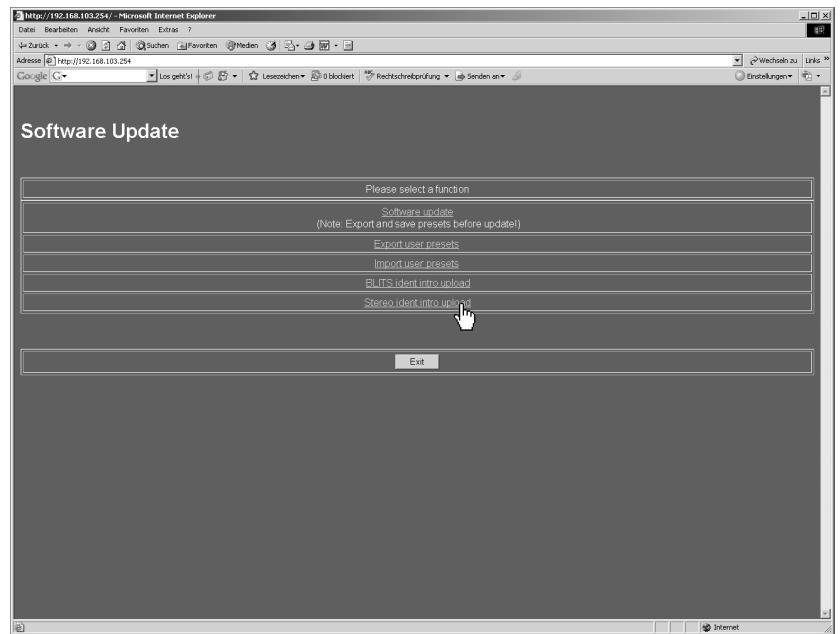
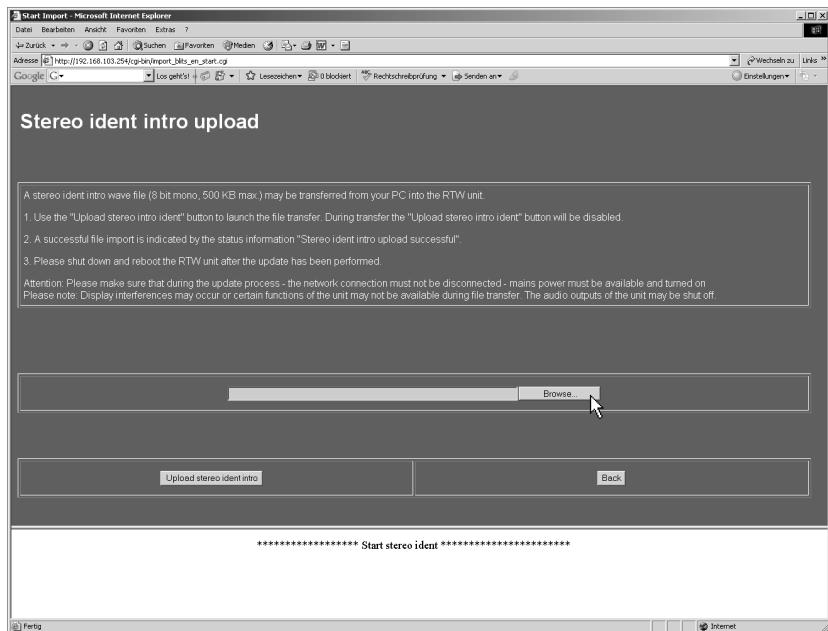
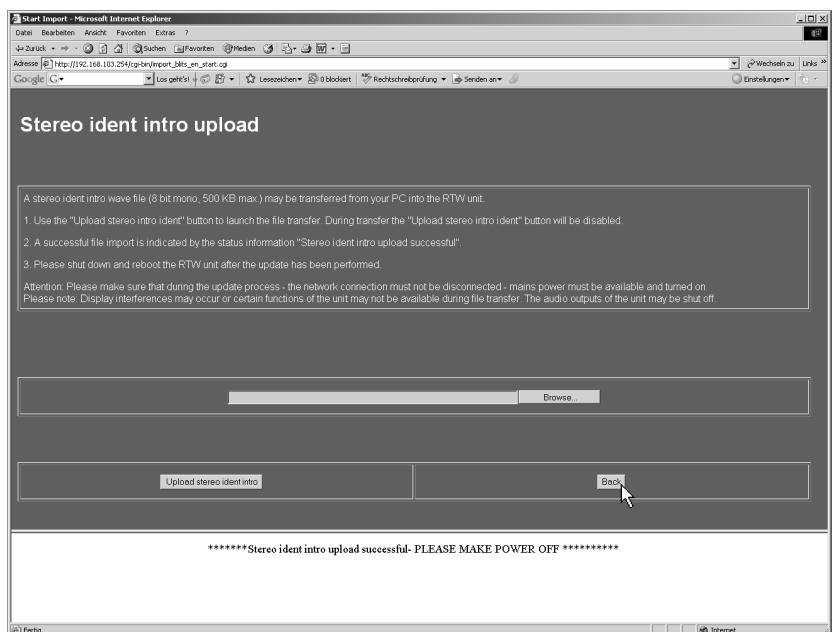

Fig. 8-33: Software Update Program menu in web browser
Fig. 8-34: Display of the Stereo ident intro upload menu page (Browse ...)
Fig. 8-37: End of the Stereo ident intro upload
2. The SurroundControl units should respond with a screen like the one shown in Fig. 8-33. Choose Stereo ident intro upload. **Please note the instructions on the Stereo ident intro upload menu page** (see Fig. 8-34).
3. Please click the **Browse ...** button (see Fig. 8-34) to browse for the ident intro wave file.
6. When “Stereo ident intro upload successful – PLEASE MAKE POWER OFF” is displayed the ident intro upload process is finished (see Fig. 8-37). For activating the ident intro wave file the SurroundControl unit has to be restarted.
7. Click the **Back** button (see Fig. 8-37) to get back to the home page (see Fig. 8-33). There please click the **Exit** button to leave the software update program.